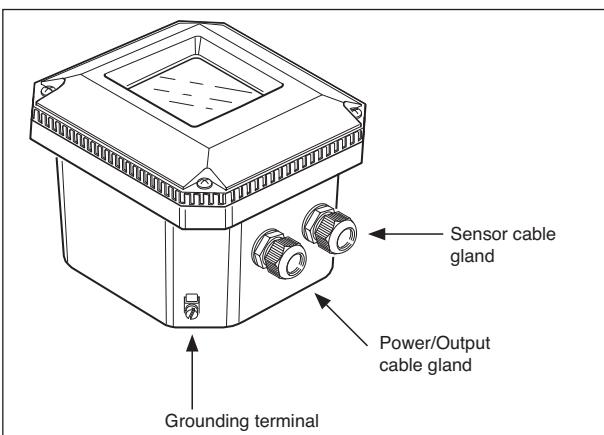

Figure 3-5. Glands to be used for cabling
The power/output connections and the sensor connections should be made in accordance with figure 3-5. The terminals are of a plug in style for ease of mounting.
4. Connect the sensor input, using the gland on the right (see fig. 3-5). Switch on the power. Commission the instrument as required or use the default settings.